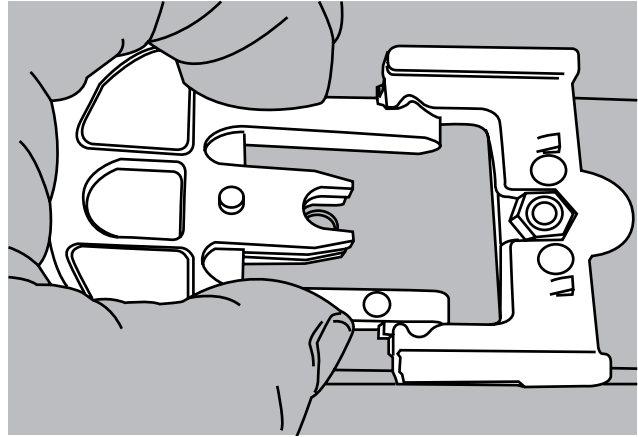

FIGURE 22
22. Securely replace the SLIDE-N-LOCK splice tray with the spliced fibres back in the SLIDE-N-LOCK Bracket. (Figure 22)